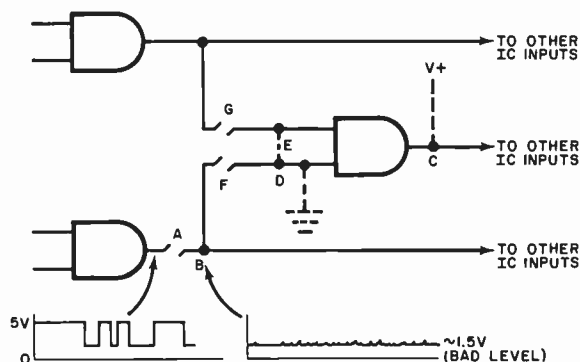

Fig. 6. Five steps to follow in isolating the most common faults in digital logic circuits.
Checking Logic Circuits. The most common defects found in digital circuits are shown in Fig. 6. The following five steps, performed in the sequence shown, will isolate the trouble quickly.
2. Check for an open bond in the IC driving the failed node. An open output at A in Fig. 6 would cause the node at B to float to a bad level of 1.4 to 1.5 volts. Inputs connected to B would interpret this as a high level, but a logic probe would not be fooled! It would indicate a bad level. The IC driving the node should be replaced.
3. If the node is not at a bad level, then test for a short to V+ (point C) or ground (D). Inject a pulse at the suspect node while monitoring the same node with a probe. The pulser is powerful enough to override even a low-impedance TTL output, but it is not sufficiently powerful to cause a change of state on the V+ or ground bus. Therefore, the absence of a pulse indicates that the node is shorted to V+ if it is high or to ground if it is low.